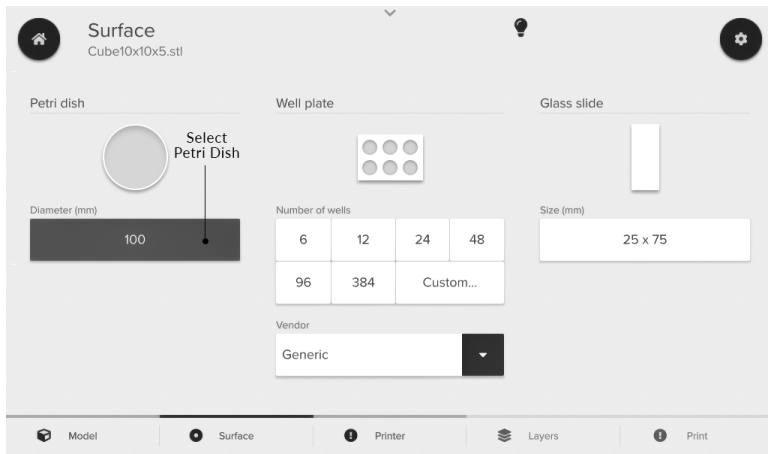

Figure 18: Select a print surface from the Surface menu.
4. Select a surface to print on. Proceed to the next menu (Figure 18).